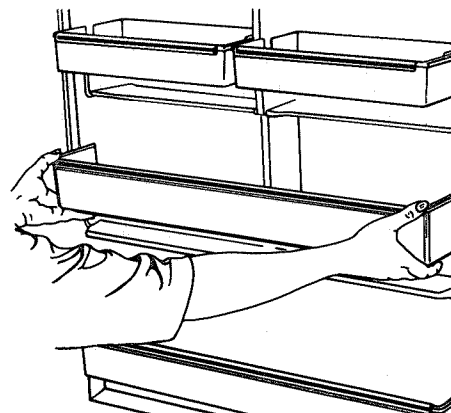

Figure 23
- d. Then pull out to remove. See Figure 23.